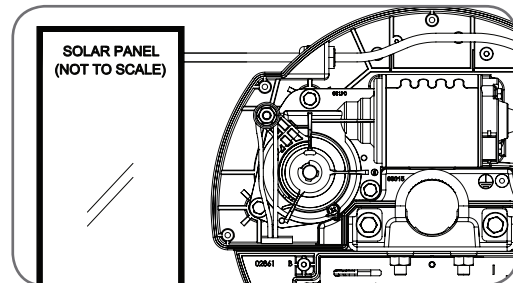

Fig 21
3. Remove the mains power cable, then fit a rubber gland to its hole in the chassis. Feed the Solar Panel's wires through this gland (Fig. 21).